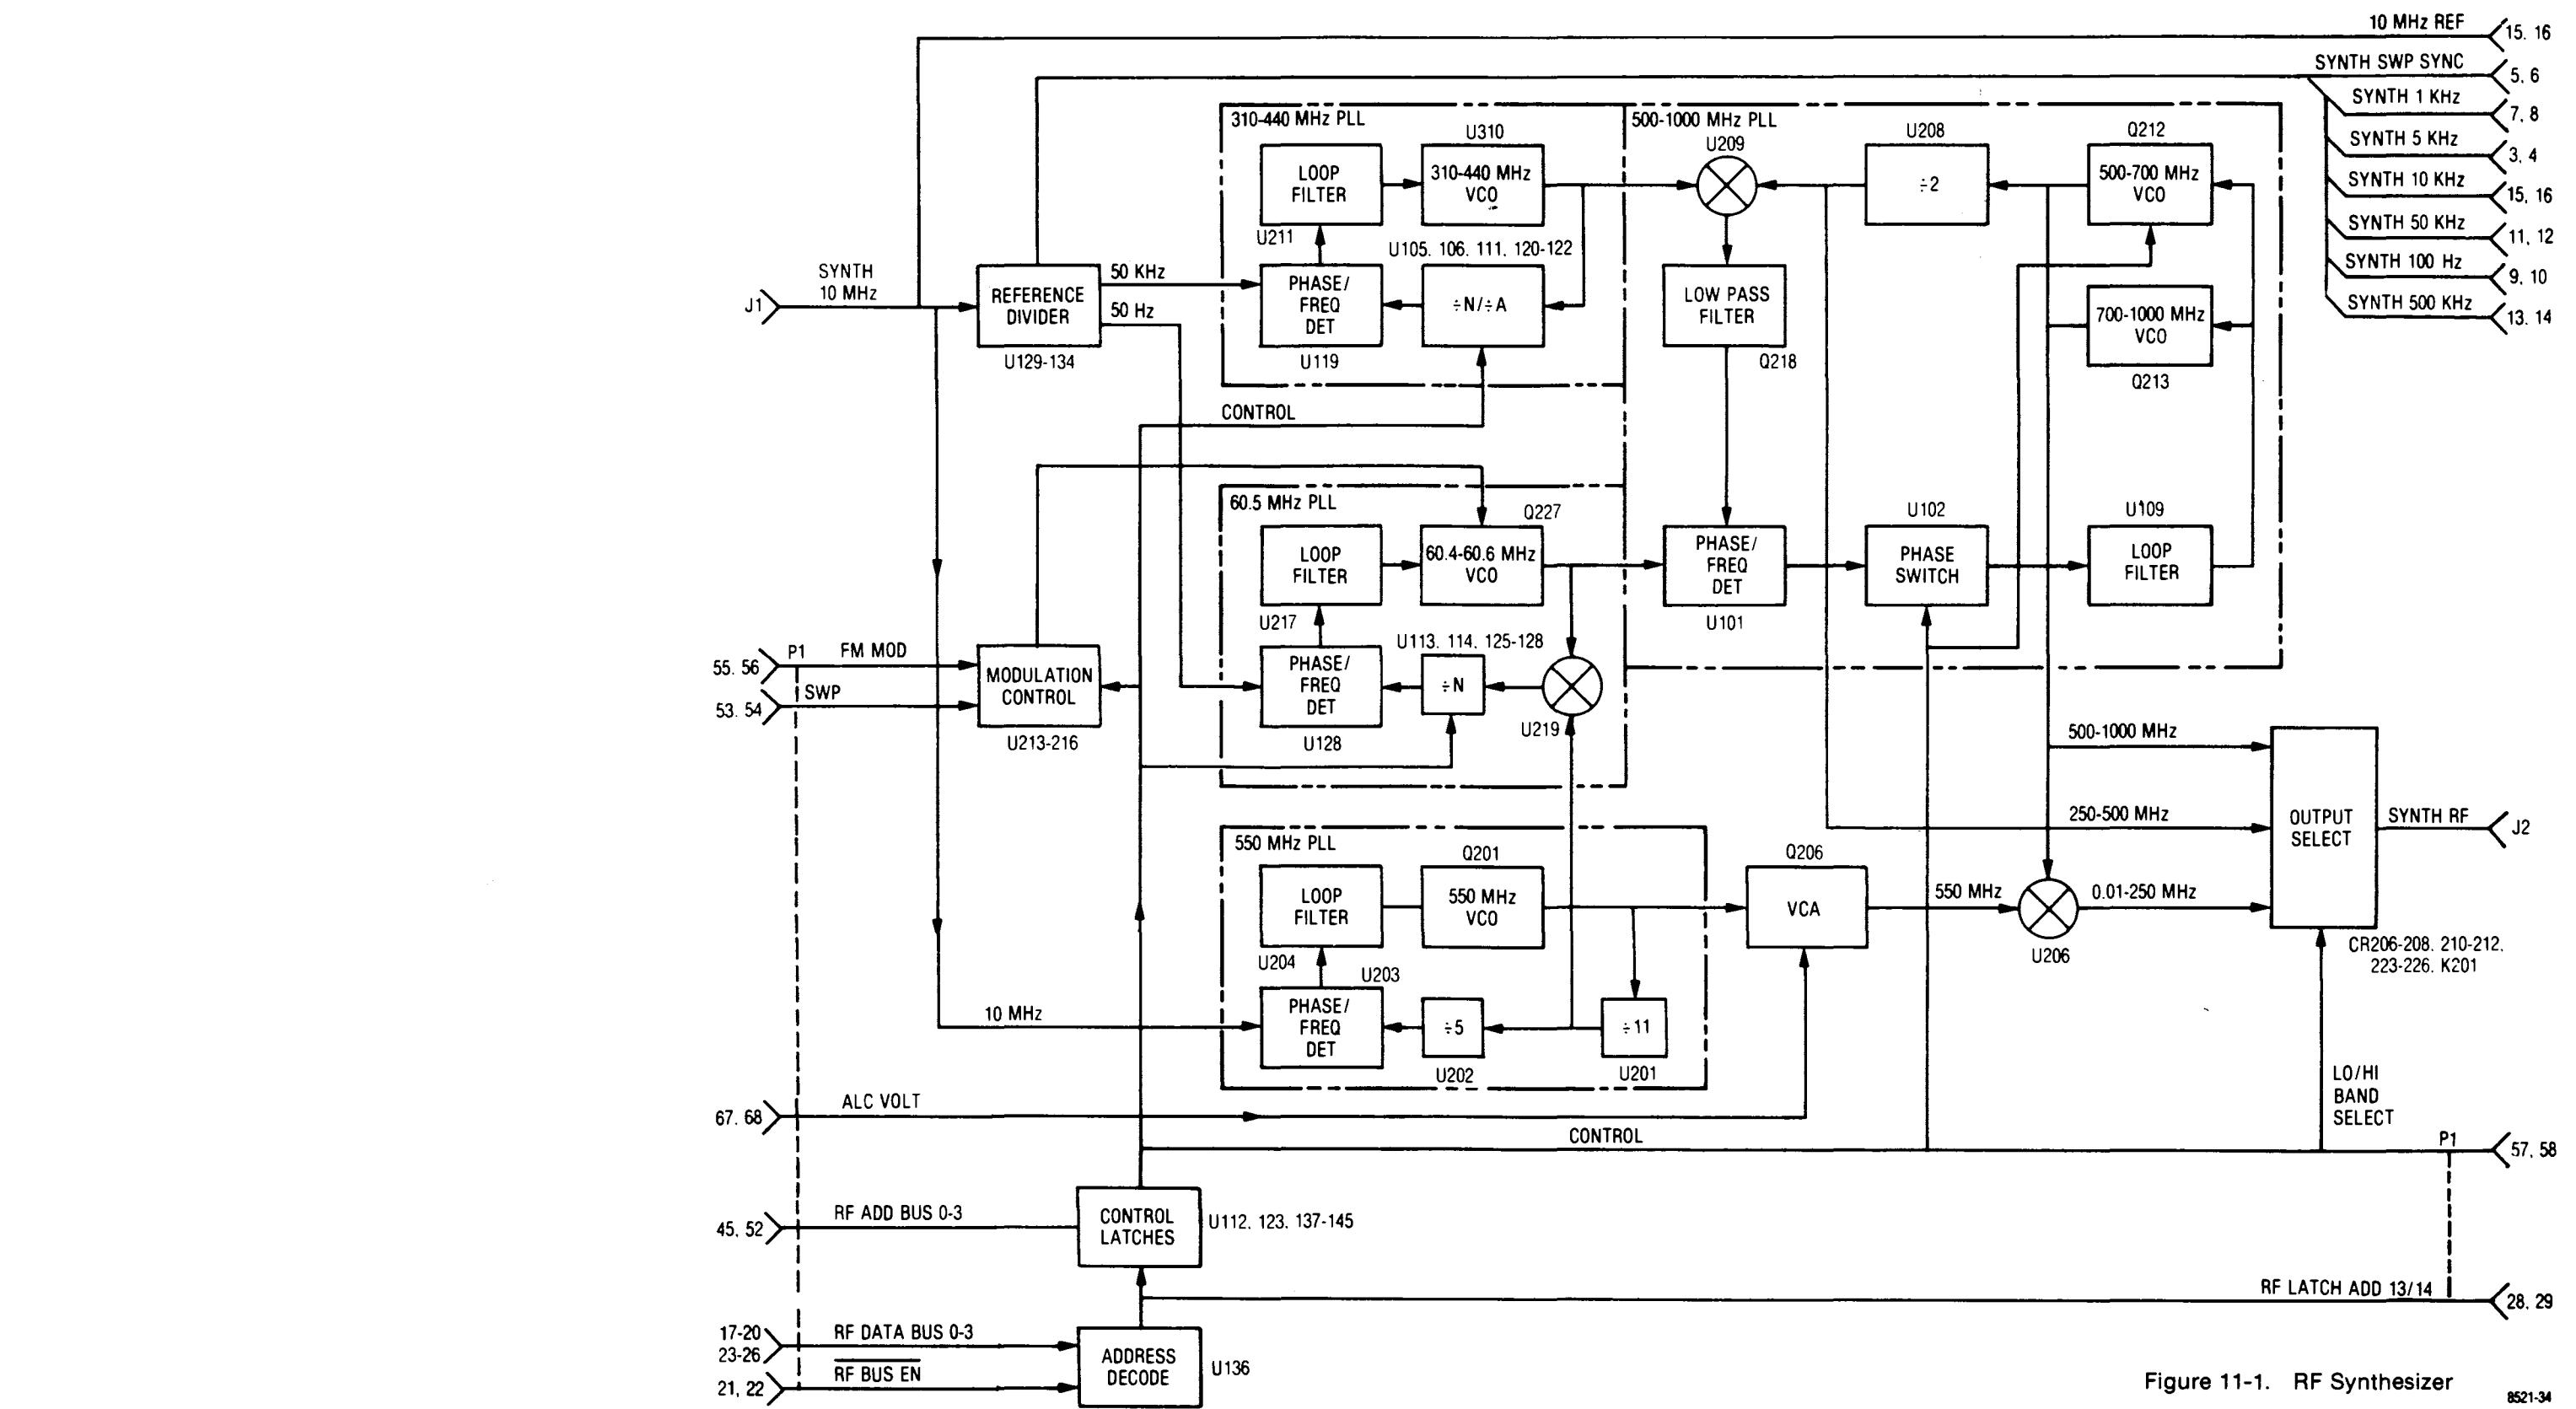
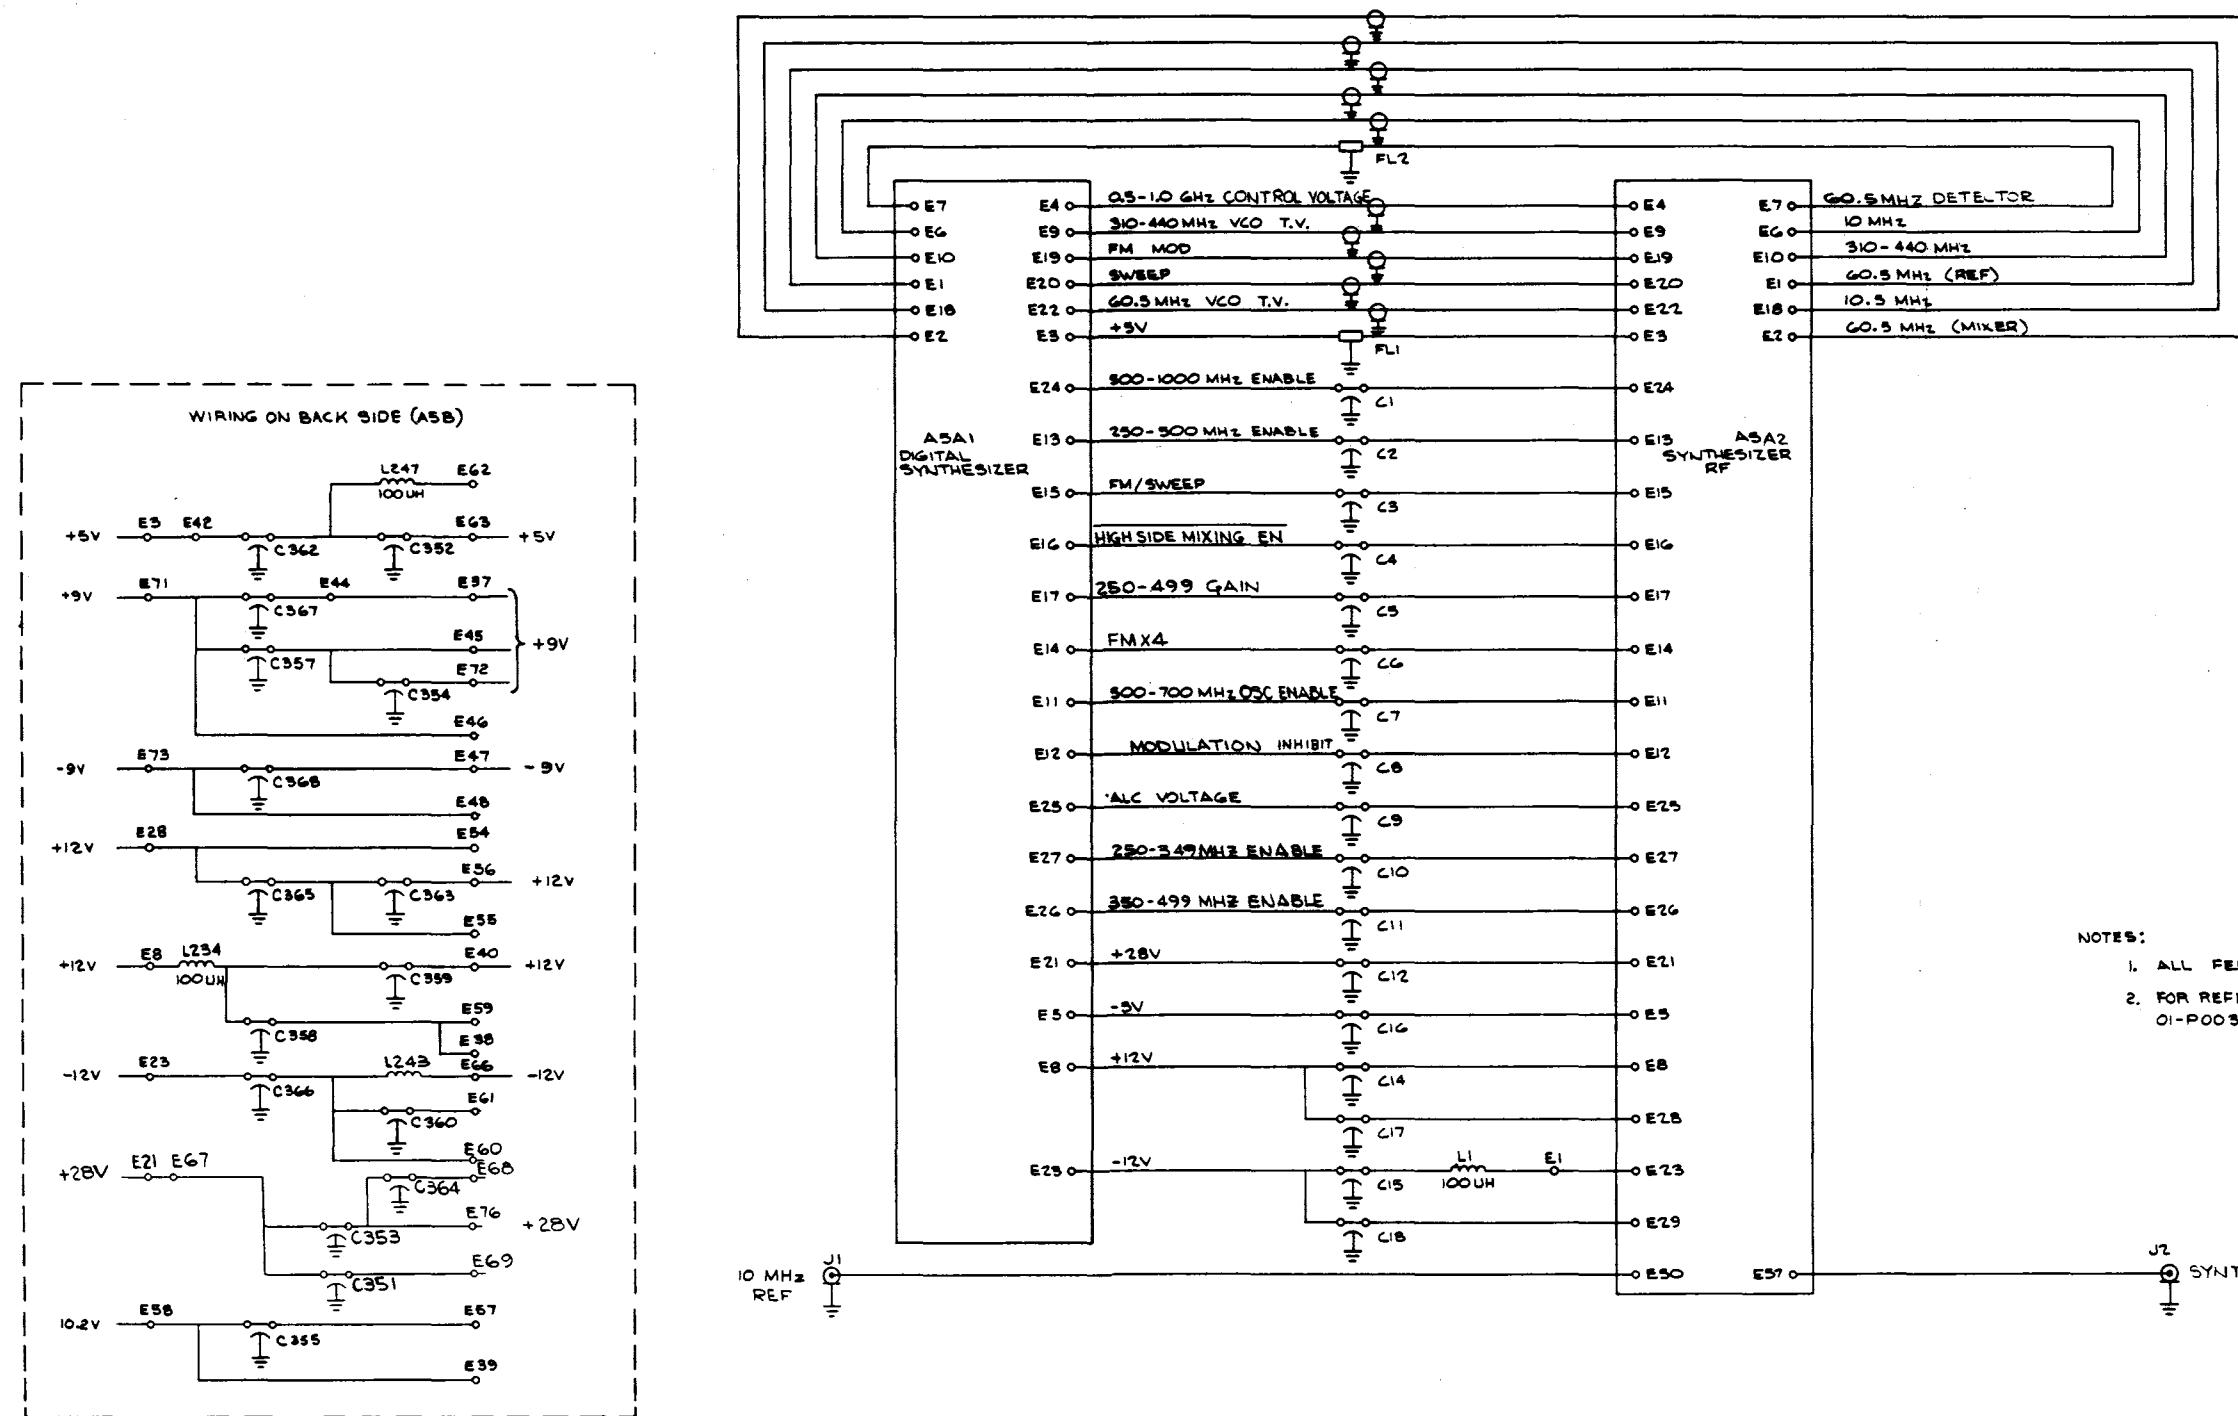

Figure 11-1. RF Synthesizer
Figure 11-3. RF Synthesizer
**11-1. General.** The RF Synthesizer provides an RF signal source for the frequency range from 10 kHz to 1 GHz in 100 Hz steps. The output frequency is programmed by the processor through the RF control bus and is phase locked to the 10 MHz frequency standard. A reference divider in the module produces outputs of 500 kHz, 50 kHz, 5 kHz, 1 kHz, 100 Hz, and 50 Hz (SYNTH SWP SYNC) each having the same accuracy as the frequency standard. A block diagram of the RF Synthesizer is shown in figure 11-1 and its schematic is shown in figure 11-3.